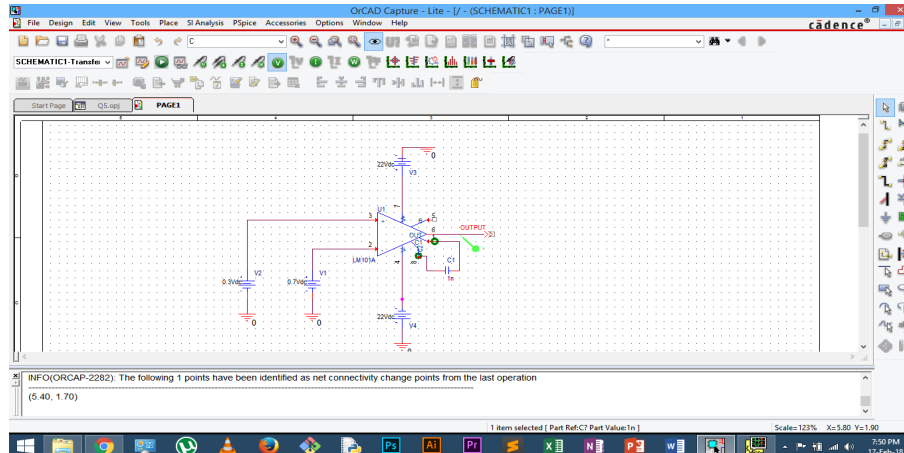

Figure 14: Circuit Diagram
- The circuit was constructed as show in Figure 14.